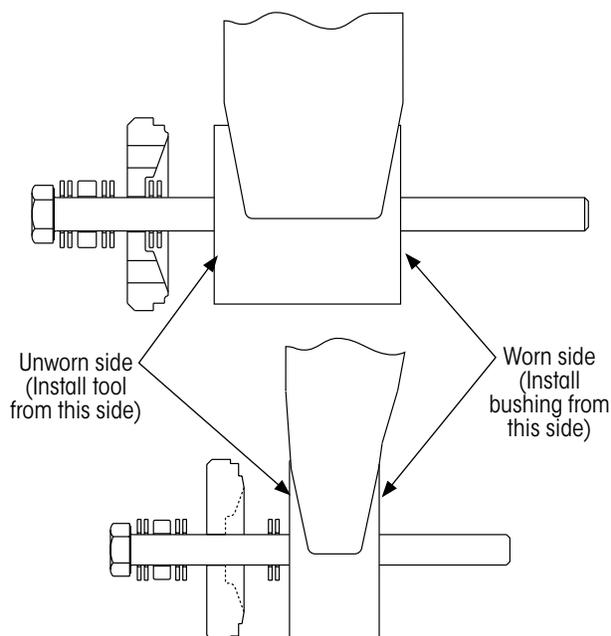

Figure 37: Install bushing from worn (but dressed) side
- B. If bushing tube wear was detected in step 2 on page 14, the assembled tool must be inserted into the unworn side of the bushing tube (Figure 37) so the replacement bushing can be installed from the worn (but dressed) side of the bushing tube.